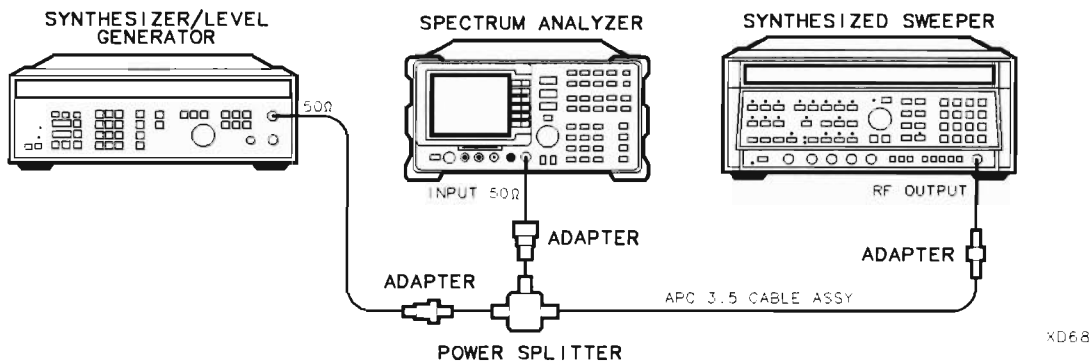

Figure 2-13. 10.1 MHz to 10 kHz Frequency Span Readout Accuracy Test Setup
1. Connect the equipment as shown in Figure 2-13. Note that the Power Splitter is used as a combiner.